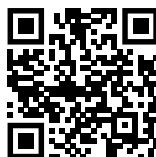

Fig. 115
- ▶ Åbn Liebherr SmartMonitoring Dashboard. (se Fig. 115)